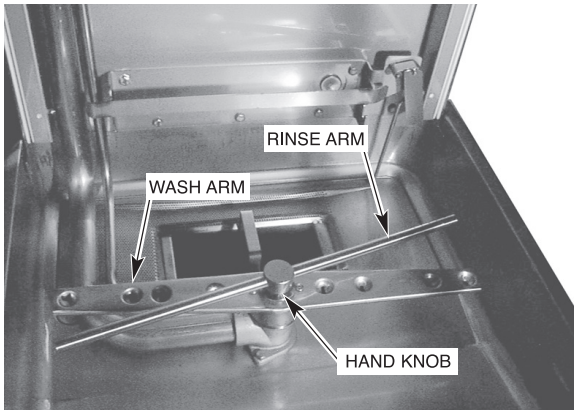

Fig. 37
11. Remove and check wash arms and rinse nozzles (Figs. 37, 38) to make sure they are free of any lime and solids. Refer to Maintenance, page 36.
Upper and lower wash and rinse arms (page 32, Figs. 37, 38) should turn freely and continue turning for a few seconds after being whirled by hand. To check, rotate arms and remove any obstructions causing improper operation.
To remove the lower wash arm, unscrew the hand knob and lift the rinse arm off (Fig. 37). The wash arm can be lifted off once the rinse arm is removed.